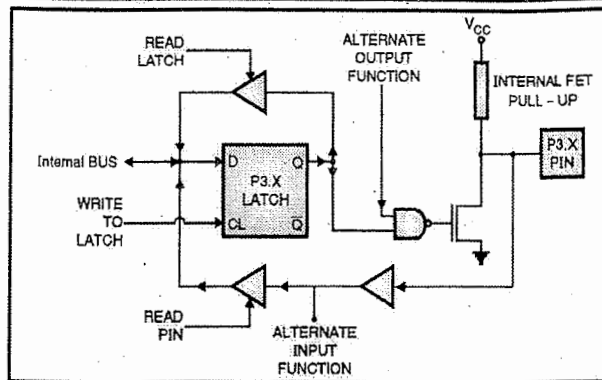

Fig. 1.17.7 : Port 3 circuit
- Fig. 1.17.7 shows port 3 circuit.